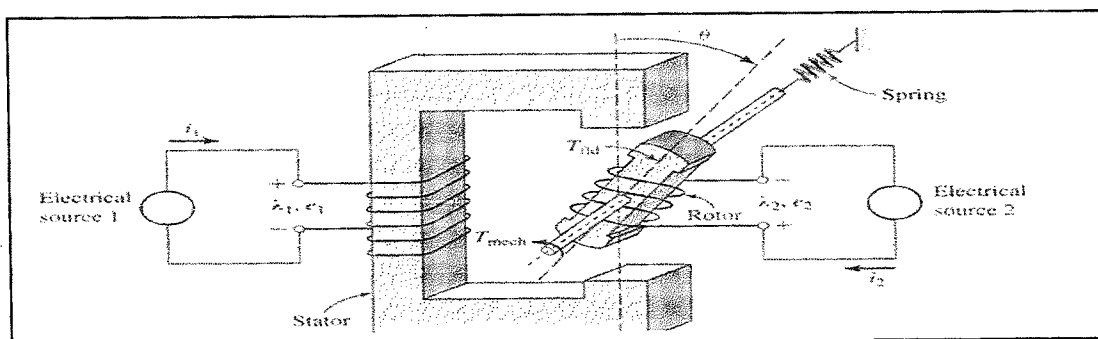

Fig.3
4. a). In an electromagnetic-energy-conversion-device shown in fig.3, if one winding is mounted on a stationary member of iron and another winding is mounted on the movable member of iron then draw this figure showing the flux and obtain the expression for electromagnetic torque in this doubly excited rotational electromechanical energy converter. Assume the necessary parameters for the system concerned. Also derive expressions for the speed and the transformer emfs. 17